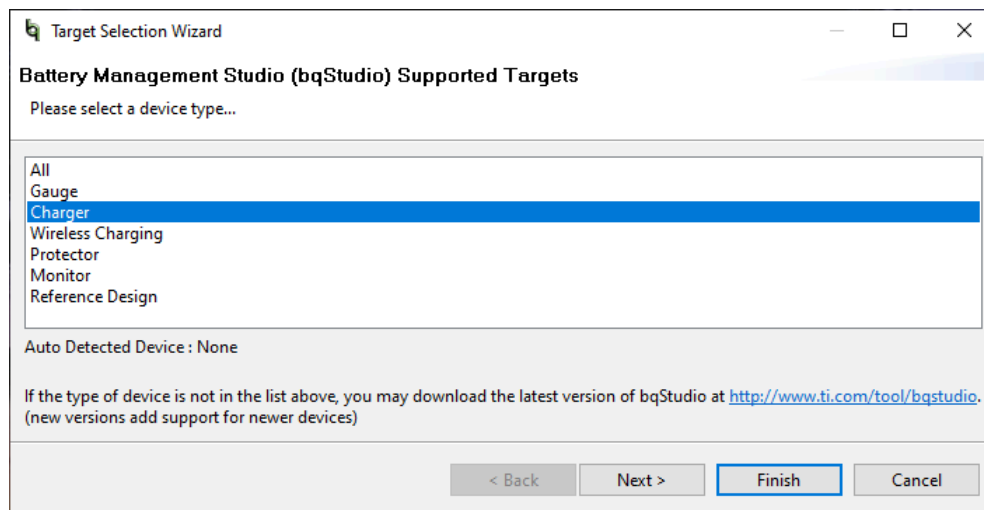

Figure 3-1. BQStudio Device Type Selection Window
1. On the computer connected to the EV2400 interface board, launch Battery Management Studio (BQStudio). Select Charger as seen in Figure 3-1.